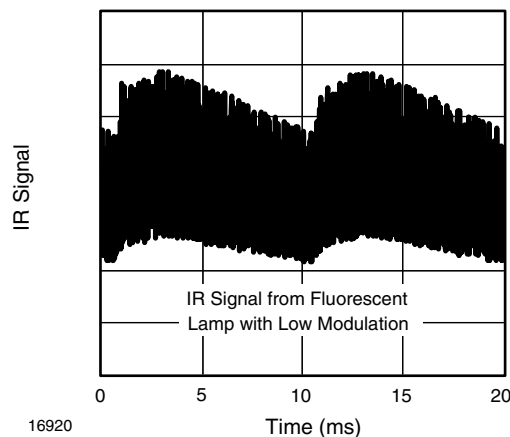

Fig. 15 - IR Signal from Fluorescent Lamp with Low Modulation
- Modulated noise from fluorescent lamps with electronic ballasts (see figure 15 or figure 16)